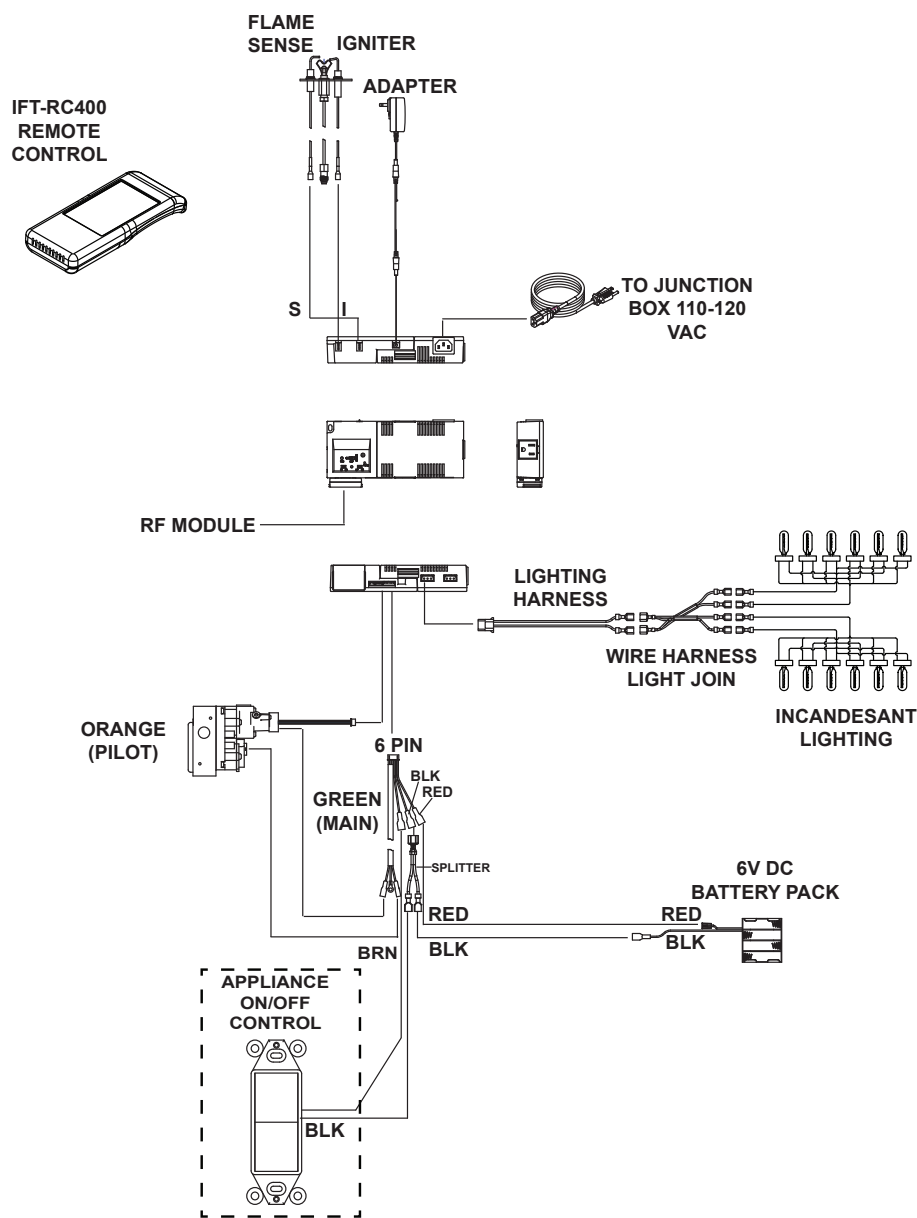

Figure 8.3 Intellifire™ Touch Wiring Diagram without Power Vent
- Refer to Figure 8.3 or 8.4, IFT Wiring Diagram.